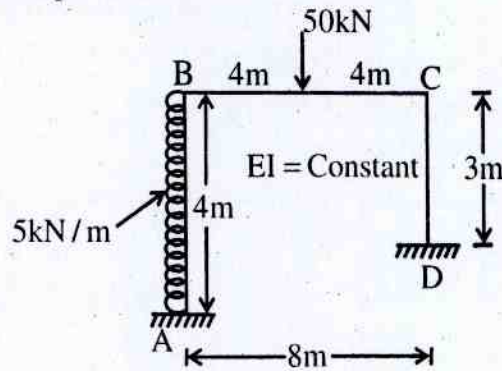

Fig.2
- Q.1 Using slope deflection method, determine the end moment at A, B, C & D of the members of frame as shown in fig.2 EI is constant throughout. Draw bending moment diagram and deflected shape of the frame- [16]